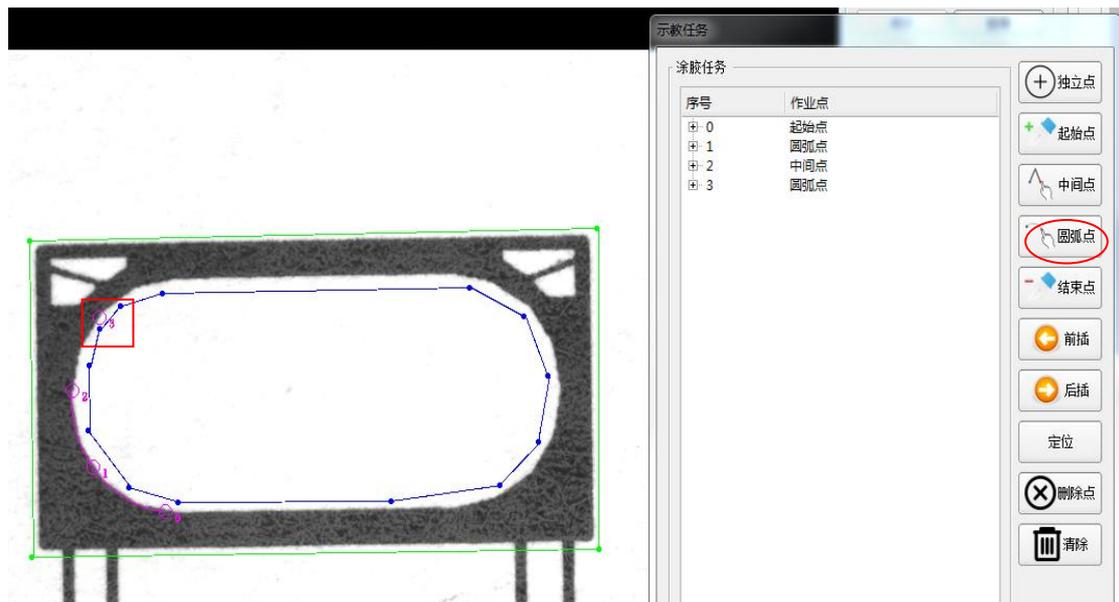

Figure 32 Arc point adding
4) Add the arc point on position of 45 degrees after middle point, as shown in figure 32;